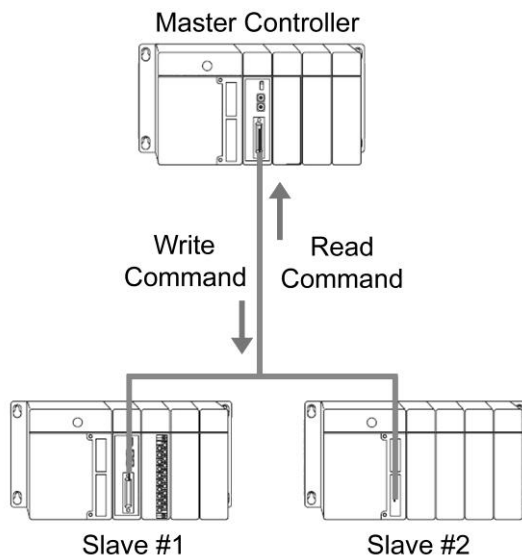

Figure 14-3 Master-slave network for question 35.
35. The network access control scheme used in the master-slave protocol of Figure 14-3 is known as 35._____